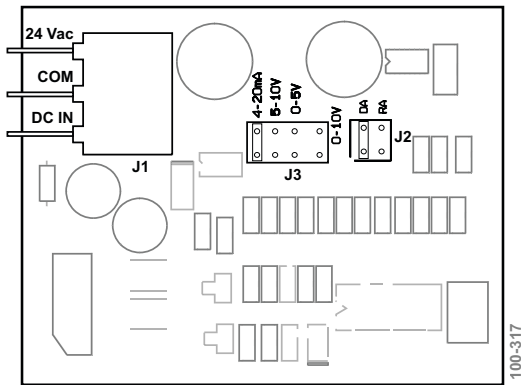
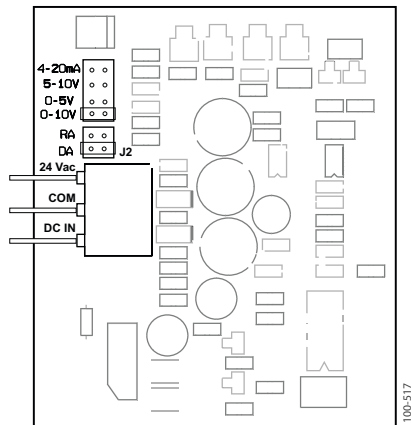

Figure 8. Typical Wiring of 3-Wire Proportional Non-Spring Return Valves
Figure 9. Typical Wiring of 3-Wire Proportional Spring Return Valves
1. Remove the cover from the actuator, then connect the power and control wiring to the terminal block (Figure 8 and Figure 9).
- All units are shipped with the actuator in the direct-acting 0...10 Vdc mode, which means the valve opens the B port upon receiving an increasing Vdc signal. To change the action to reverse-acting (valve closes with an increase in control signal), simply remove the action jumper J2 and relocate it to the reverse-acting pins. See Figure 8 and Figure 9.